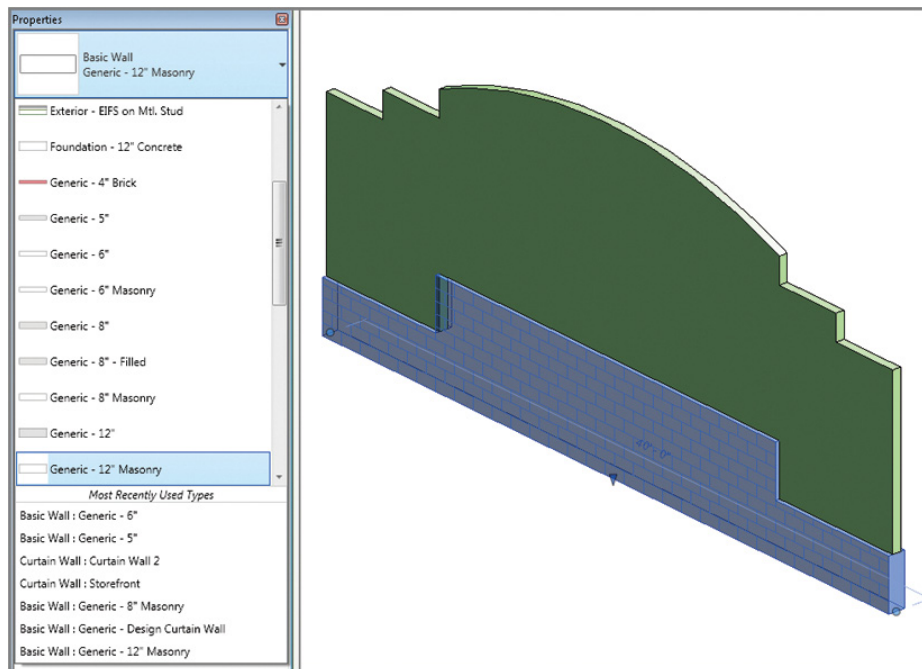

FIGURE 2.20 Selecting a new wall type
2. Change the lower wall to Generic – 12" (300 mm) Masonry. Once you select the new wall type, the result resembles the wall in Figure 2.20. Note that the patterns of the individual CMU courses are shown on the wall's surface in accordance with the new wall type's material properties. Profile edits, attachments, and instance properties of the wall will also be maintained for the new type.